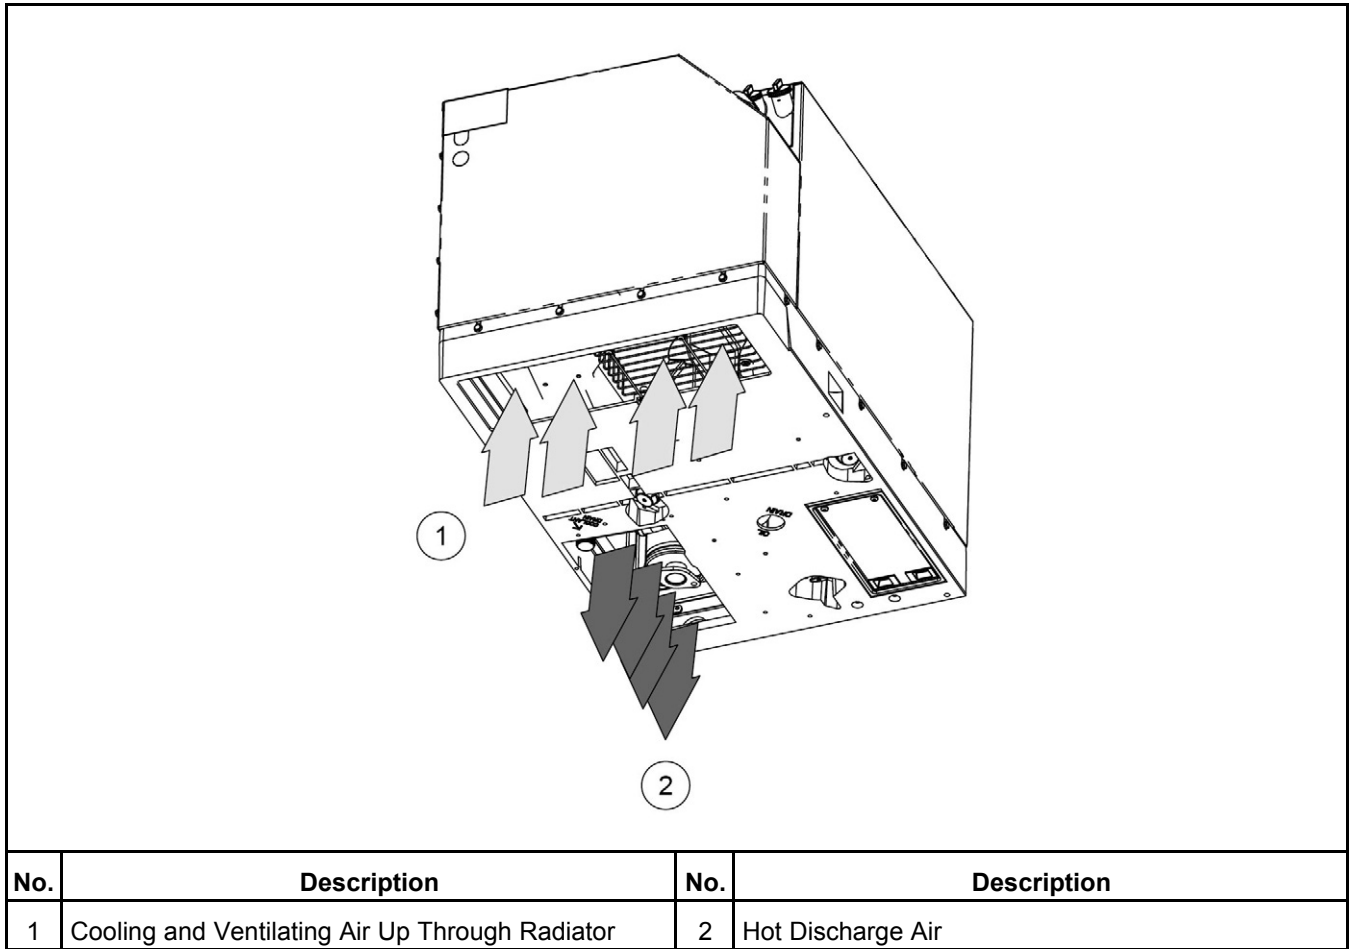

FIGURE 2. COOLING, VENTILATION, AND COMBUSTION AIR FLOWS
- Access for removing the two fuel pump mounting screws so that the generator set does not have to be removed to replace the fuel pump. See Figure 2.